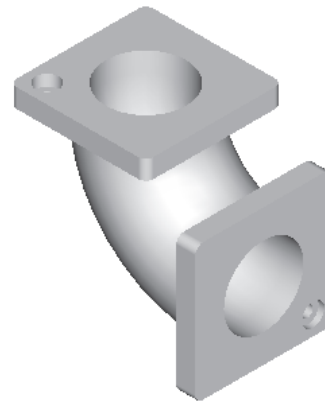
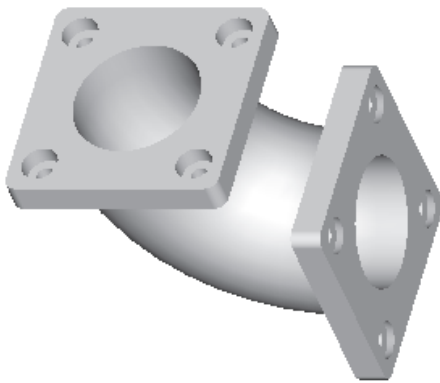

Figure 7-42 One hole each on the two extruded features
Figure 7-43 The default trimetric view of the model
- e. The fifth feature is a counterbore hole that will be created on the third feature, see Figure 7-42. This hole will be created using the **HOLE** dialog box.
- f. The sixth feature is a counterbore hole that will be created on the fourth feature, see Figure 7-42. This hole will be created using the **HOLE** dialog box. Then, the two counterbore holes will be patterned on the third and the fourth feature, see Figure 7-43.
8. Create another hole on the fourth feature using the same procedure as discussed above. The default trimetric view of the model that is completed until now is shown in Figure 7-42.
Similarly, create pattern of the hole on the other extruded feature also. The default trimetric view of the complete model is shown in Figure 7-43.